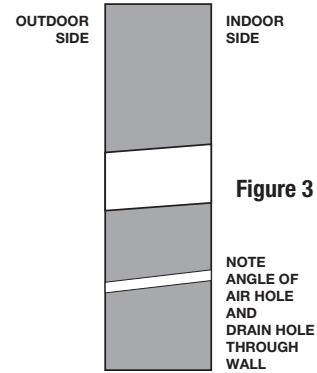
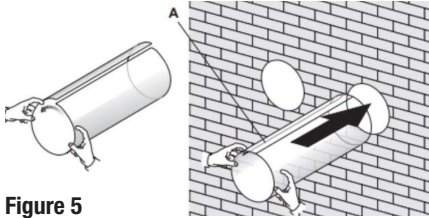

Figure 3
Figure 5
the removed materials may be discharged outward, so please be careful not to touch people or objects. Figure 3.
4. Drill 2 holes through wall (angle shown on figure 3) for the in and out air openings. Clean holes before installing the plenum. Apply caulking to the inside flange of the plenum and install the 2 plenums as shown in Figure 5, Seal plenum from the outside if accessible
6. Drill drain hole as shown on the template. Feed the metal pipe from the inside into the wall holes. Figure 5.